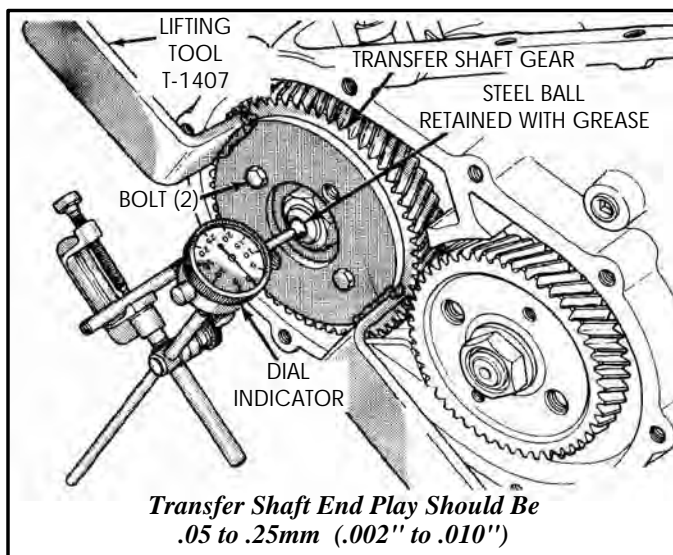

Figure 205
3. Install the lifting tool on transfer gear with two bolts, as shown in Figure 205.
4. Install steel ball in center of the transfer gear shaft and retain with small amount of grease, as shown in Figure 205.
5. Mount dial indicator, as shown in Figure 205, with the plunger on steel ball and zero the dial indicator.
10. Again measure transfer shaft end play with the dial indicator, as shown in Figure 205. The end play should be .05 to .25mm (.002" to .010").